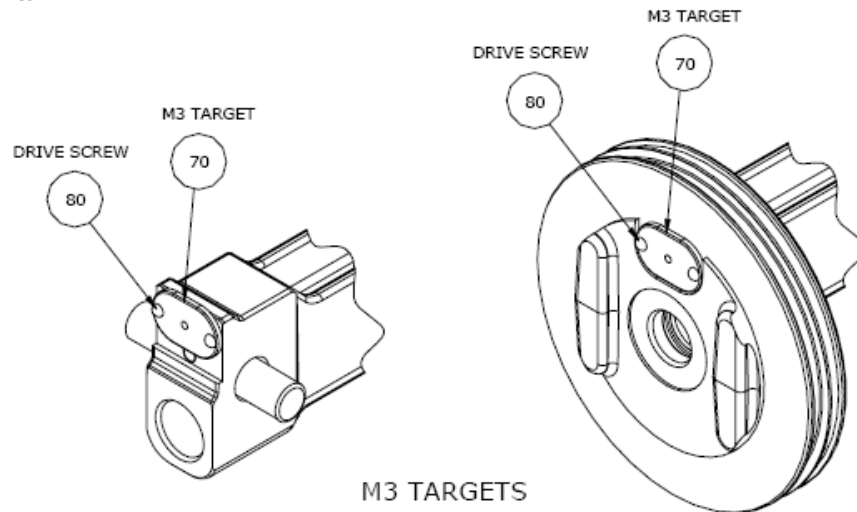

FIGURE NUMBER 2
WARNING: The M3 cannot be installed on a standard CBA actuator unless the M3 targets are installed on the piston assembly as shown in Figure Number 2. If the M3 is operated with a piston that does not have a target the groove pin (12-20) is subject to failure.
- 5.5.5 Add the M3 targets to the piston assembly (4-50) per Figure Number 2 - M3 piston targets.
- 5.6.5 Add the M3 targets to the piston assembly (4-50) per Figure Number 2 - M3 piston targets.